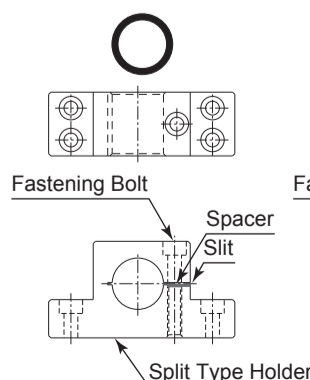
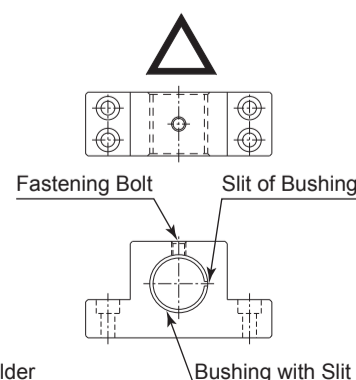

Fig. 7
Fig. 8
- ② When installing a Spindle to the holder, recommended installation method is shown Fig. 7. Refer to "③ How to fabricate the Split Type Holder". If this is not possible, install as shown in Fig. 8.